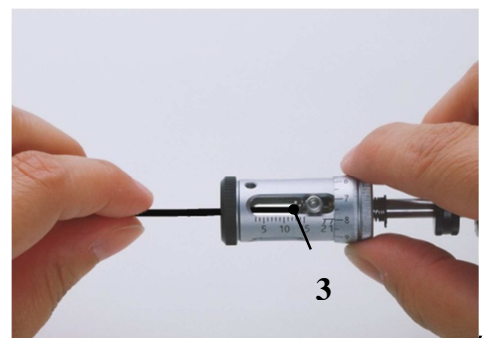

Fig 5. Insert the cable
- Insert the cable horizontally through the head opening, until the end of the cable is touching the stopper (3). (Fig. 5)